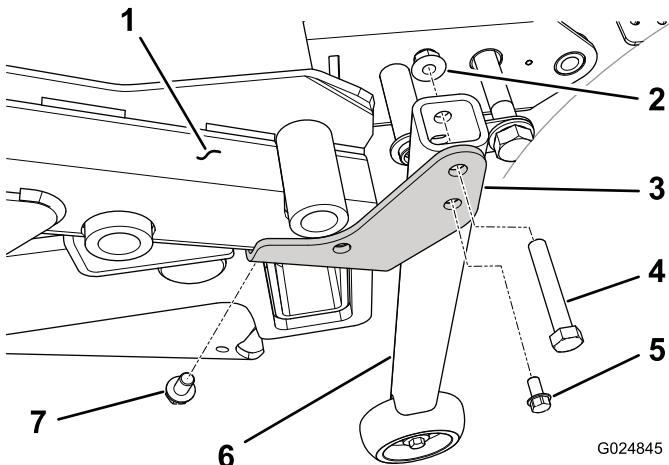

Figure 99
6. On traction units that have a serial number greater than 313000001, install a conversion bracket (right or left hand) to the under side of the appropriate rear corner of the deck frame with a self-tapping screw, 3/8 x 5/8 inch (Figure 99). The bracket is to point toward the end of the rear frame.
- 7. Install the vertical tube support assembly to the conversion bracket (right or left hand) on each corner of the deck frame with a 3/8 x 2-1/4 inch screw and 3/8 inch flange nut (Figure 99).